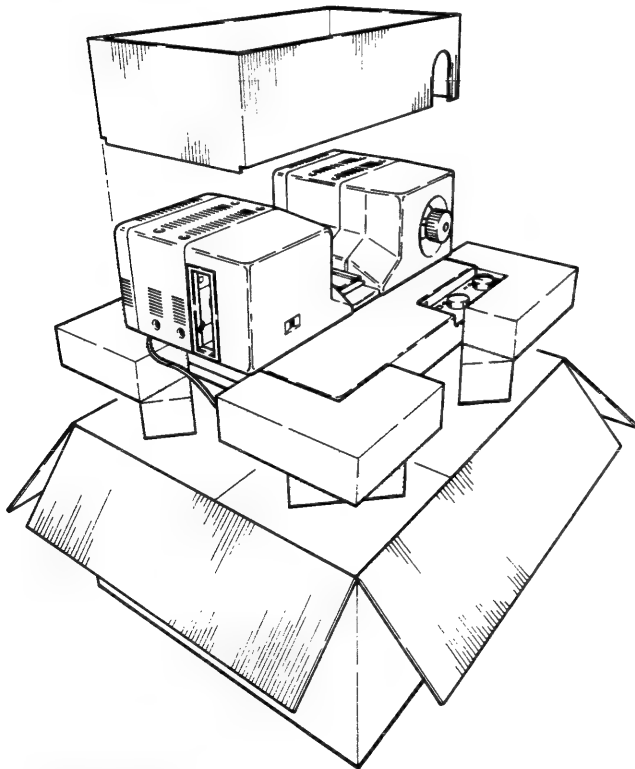

Figure 2-2A
2. Inspect the machine and uninstalled components (Figure 2-2A) for damage or missing parts.